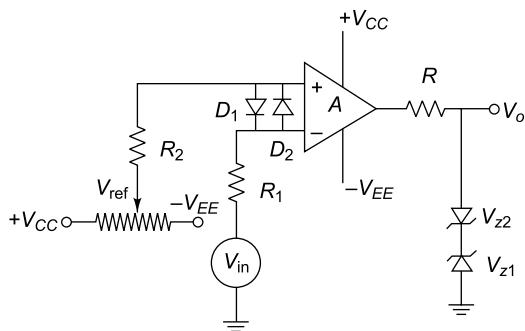

Fig. 5.96
34. Figure 5.96 shows a comparator circuit where $V_{Z1} = V_{Z2} = 10 \text{ V}$, $V_D = 0.6 \text{ V}$, $V_{ref} = +3 \text{ V}$, saturation voltage $\pm 14 \text{ V}$, and $V_{in} = 2 \sin \omega t$.